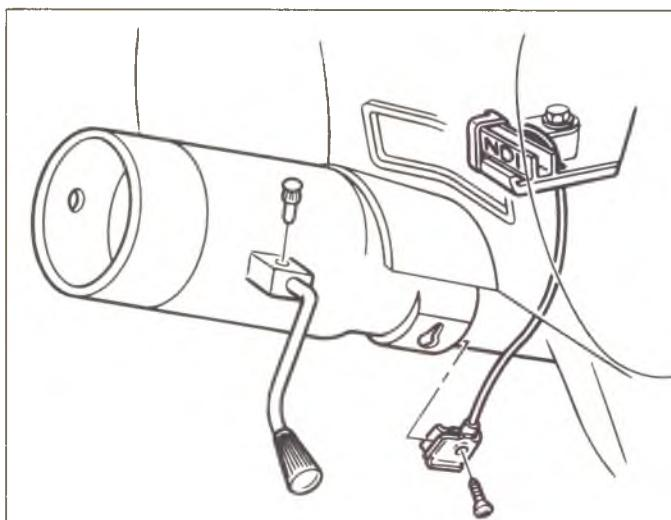

Fig. 61—Automatic Transmission Indicator Connection
8. Remove the transmission indicator cable, if so equipped (fig. 61).